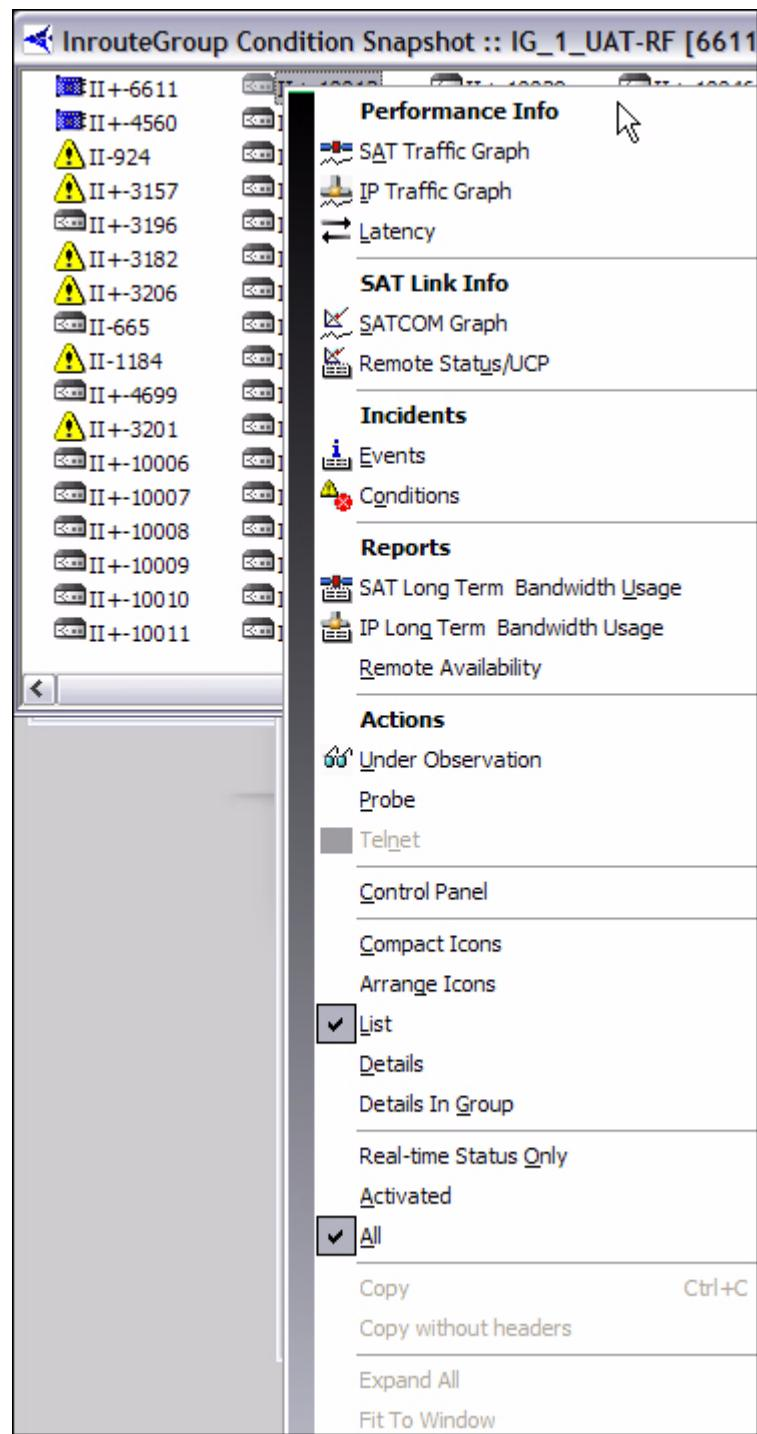

Figure 3-7: Remote Submenu in Condition Snapshot
Step 5 You can click on any of these options to create a specific view. Figure 3-6 above is an example of right-clicking **List** in the submenu (see Figure 3-7). The example below is a result of right-clicking **Details**.
Step 1 In the **Network Condition Snapshot** results view, with **Details** selected as shown in Figure 3-7, select the remotes whose data you want to automatically be filled in on one of the above parameters dialog boxes, such as Remote Availability Report. Below is a figure showing five remotes selected.